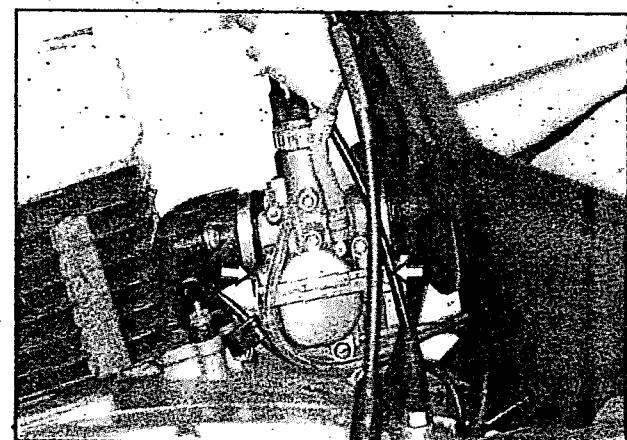

Fig 3.14
- Unscrew the carburettor clamp screws (fig 3.14)